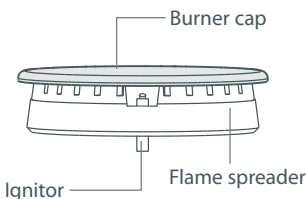

Fig.14 Burner parts
- positioned correctly, as shown in Figs. 14 and 15.